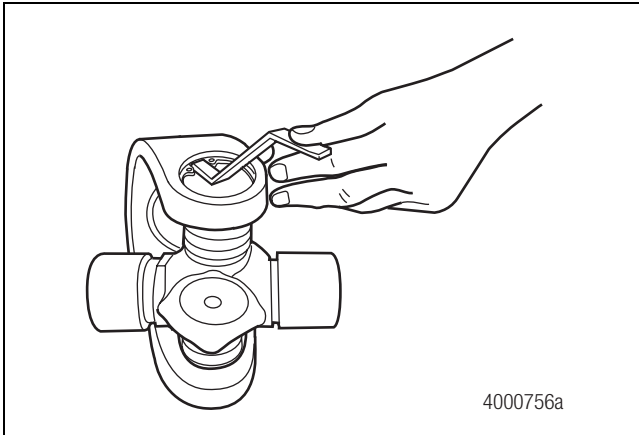

Figure 6.4
4. Use a snap ring installation gauge to check that the snap ring is fully seated in the snap ring groove. Figure 6.4.